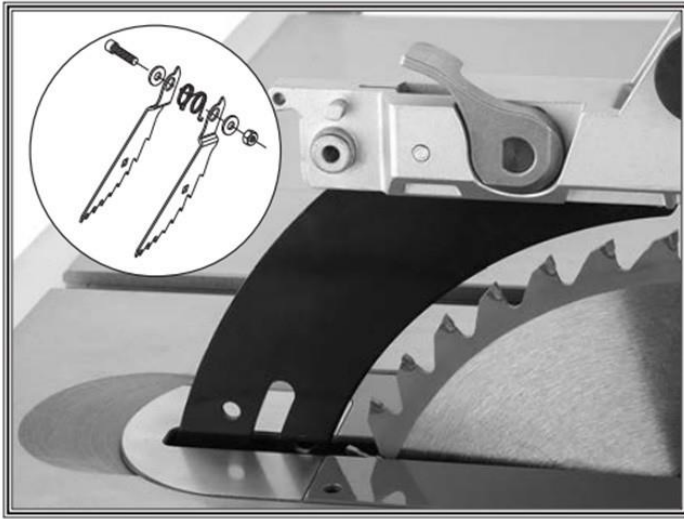

Figure 40: Pawl's removal.
- 2 - Remove the cap screw, lock nut, washers, pawls, and retaining spring from the blade guard assembly (see figure 40).